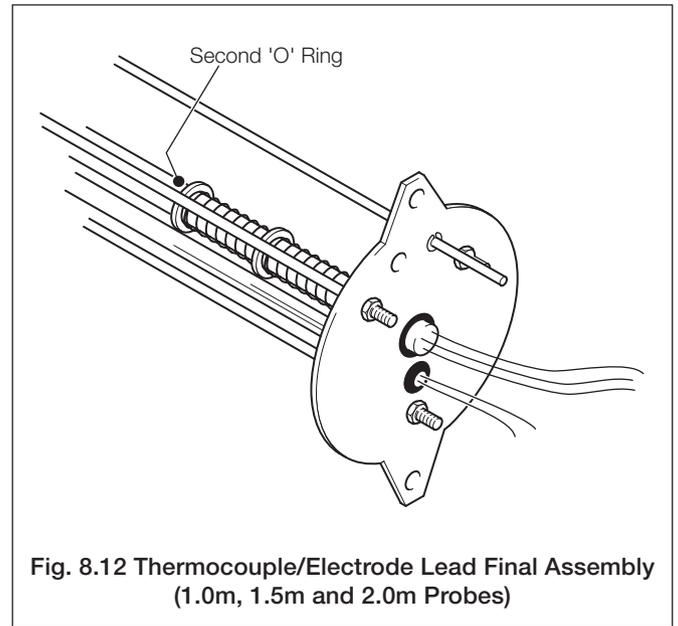

Fig. 8.12 Thermocouple/Electrode Lead Final Assembly (1.0m, 1.5m and 2.0m Probes)
8.12 Fitting the Thermocouple/Electrode Lead Assembly (1.0m, 1.5m and 2.0m Probes) – Fig. 8.12
Refer to Fig. 8.12 to check the finished assembly.